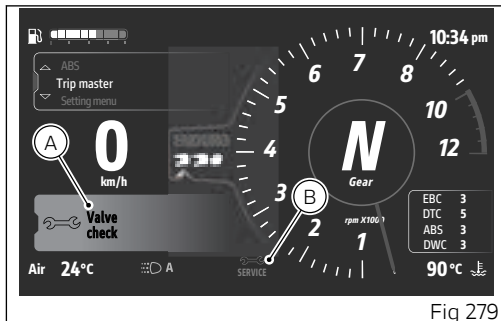
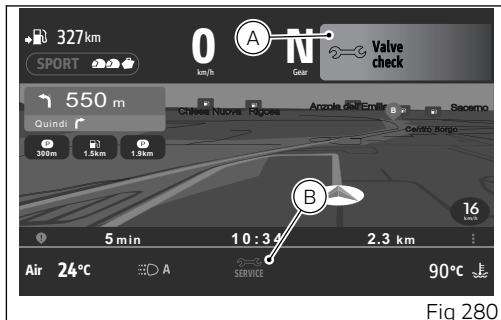

Fig 279
Fig 280
Service coupon deadline warnings are displayed in 2 modes: big (A) and small (B). These figures indicate the corresponding positions in the main page (Fig 279) and in the Ducati Connect page (Fig 280).